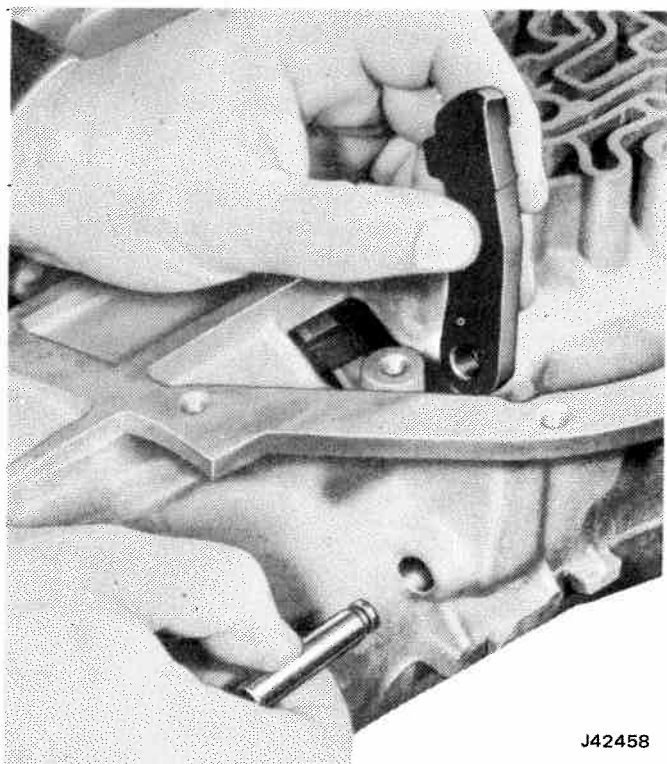

Fig. 7-28. Removing-Installing Parking Brake Pawl and Pawl Shaft
(8) Remove parking pawl shaft cup plug, parking pawl shaft, and the parking pawl from transmission (fig. 7-28).